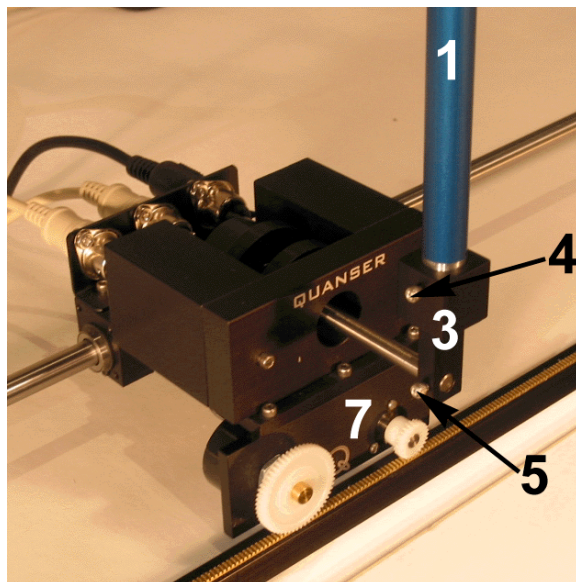

Figure 8 SIP Assembly on the IP02
- ii. An IP02 cart without its additional weight and in front of which the medium pendulum is attached, pointing downwards. This configuration is illustrated in Figure 8.